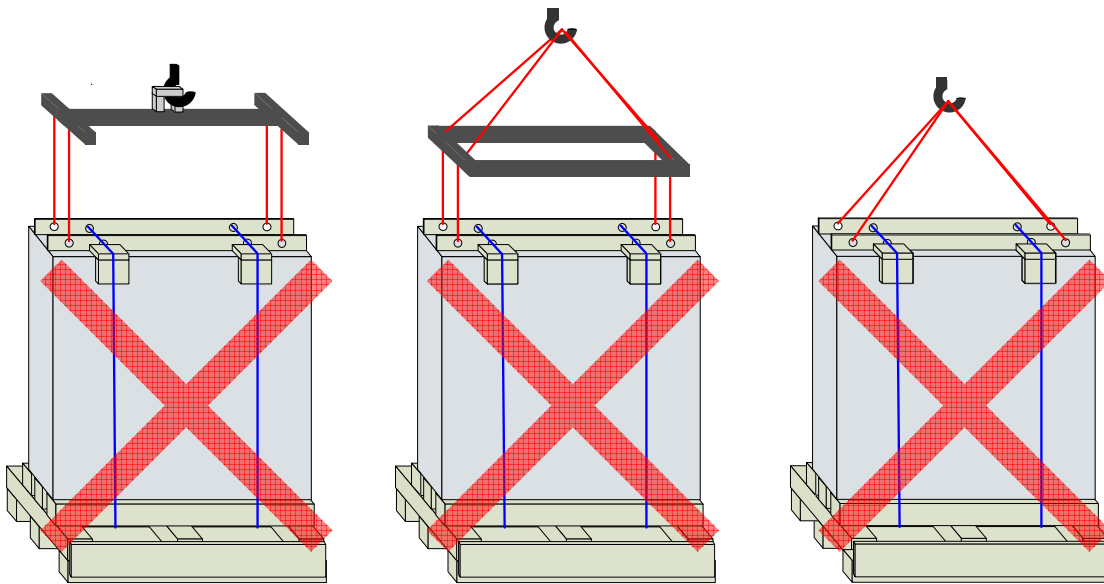

Figure 4-15 Transport methods – prohibited use of steel lifting elements
- Attachment of ropes along vertical sides of load (Figure 4-15)
Likewise prohibited is the attachment of ropes along the vertical sides of the load, irrespective of whether this involves a frame structure, an H beam or direct attachment from a hook (see Figure 4-15). There is an increased risk of toppling or dropping if the load is suspended from ropes attached along the vertical sides.